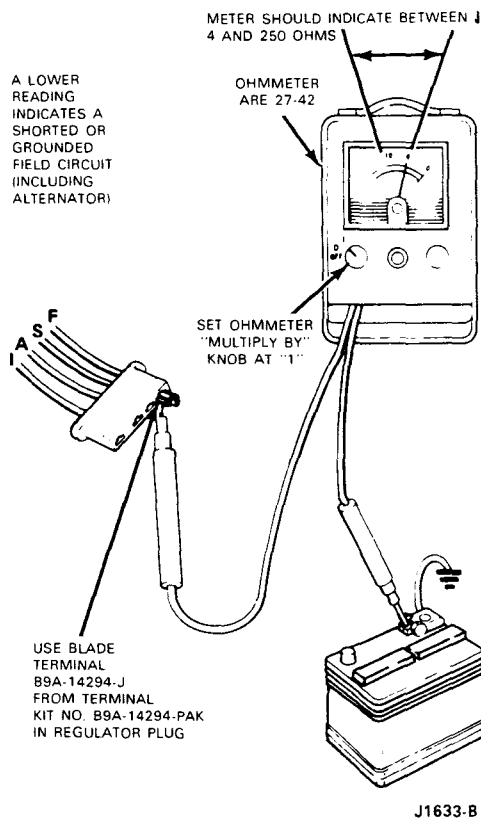

FIG. 11 Field Circuit Test
7. The field circuit should be checked with the regulator wiring plug disconnected and an ohmmeter connected from the F terminal of the regulator wiring plug to the battery ground. The ohmmeter should indicate between 4 and 250 ohms (Fig. 11).